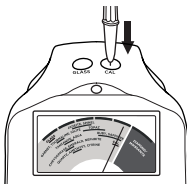

Fig. 1.4
- Press the probe tip onto the calibration (CAL) test disc located on the right of the indicator lamp (**Fig.1.4**). Apply sufficient pressure to retract the protruding tip completely into the probe pen. The indicator should rise to and remain within the red strip (preferably at the center of red strip) with “CAL” printed on top, within two to three seconds.